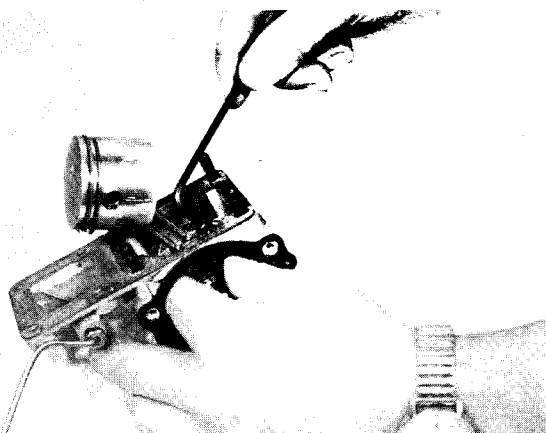

Fig. 36 — Removing Piston and Rod from Crankshaft
14. Work through side and top openings and remove piston and rod from crankshaft, Fig. 36.